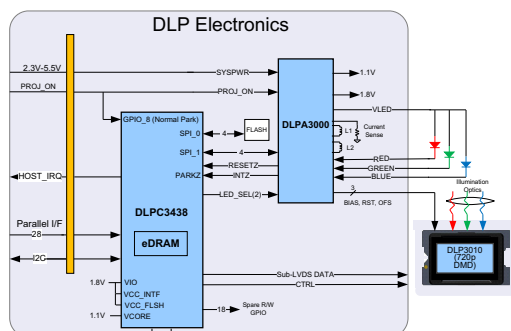

Figure 6. DLP electronics system block diagram using DLP3010, DLPC3438, and DLPA3000.
- A typical DLP electronics system block diagram for a Mobile Smart TV application is shown in **Figure 6**. The key components are the DLP controller, DLP chipset power management IC, and the LED drive circuit.